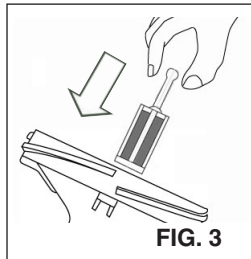

FIG. 3
- Using CUP HOLDER Male (PCG-6P-2D, Fig.3), insert the filter into cup holder.